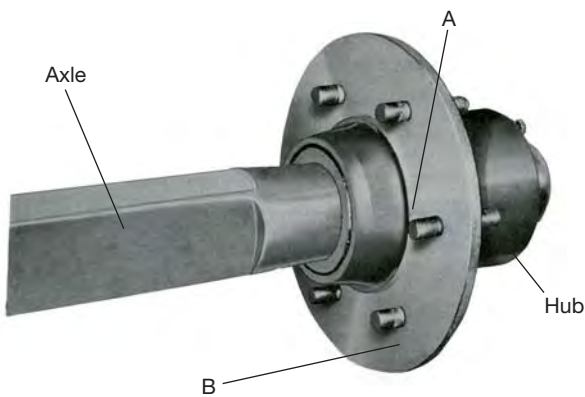

Figure 2-1
In preparing for installation, make certain that the hub drum pilot (A, Figure 2-1) is at a perfect right angle with the drum mounting surface (B), and that the drum pilot (A) runs concentric with the axle spindle within .010" total indicator reading. This may be checked on the axle with a dial indicator or by removing the hub and placing it in a lathe, using its own bearings on the arbor for centering. If drum pilot bore and mounting holes are not already present, bore drum pilot, allowing a maximum of .004" clearance; and drill bolt holes, using the hub as a template.